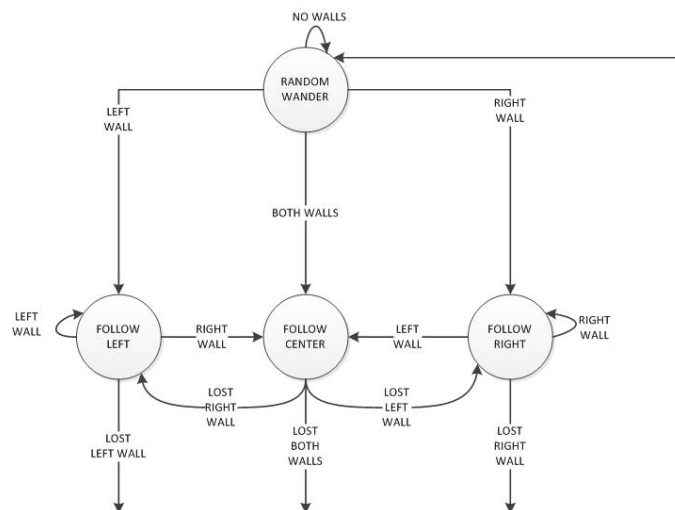

Figure 3: Wall Following State Diagram
- Next, the architecture will be evaluated by the robot starting in a wander behavior until an obstacle or wall is detected, the robot should then attempt to follow the object or wall at a distance of 4 to 6 inches unless a wall is detected on the opposite side. At that point the robot should attempt to follow the center of the hallway until one or both walls is lost. See the state machine in Figure 3 for guidance on how to design the robot architecture with the required layers.